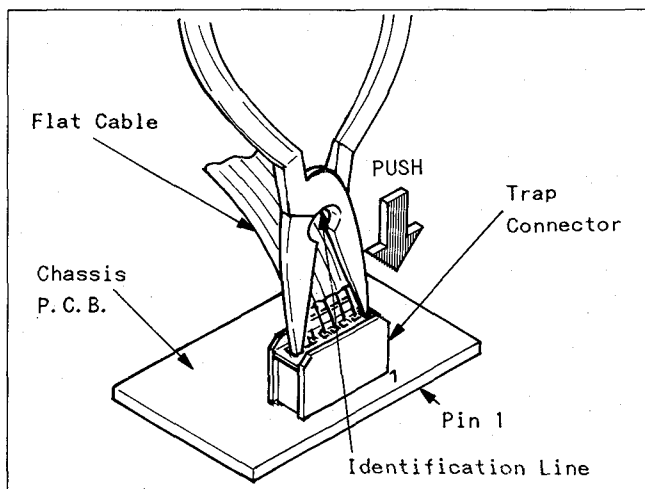

Fig. 4-2
- 1) Pull Flat Cable out while pushing against both ends of the Trap Connector at the same time with needlenose pliers in the direction indicated by the arrow, to unplug as shown in Fig. 4-2.